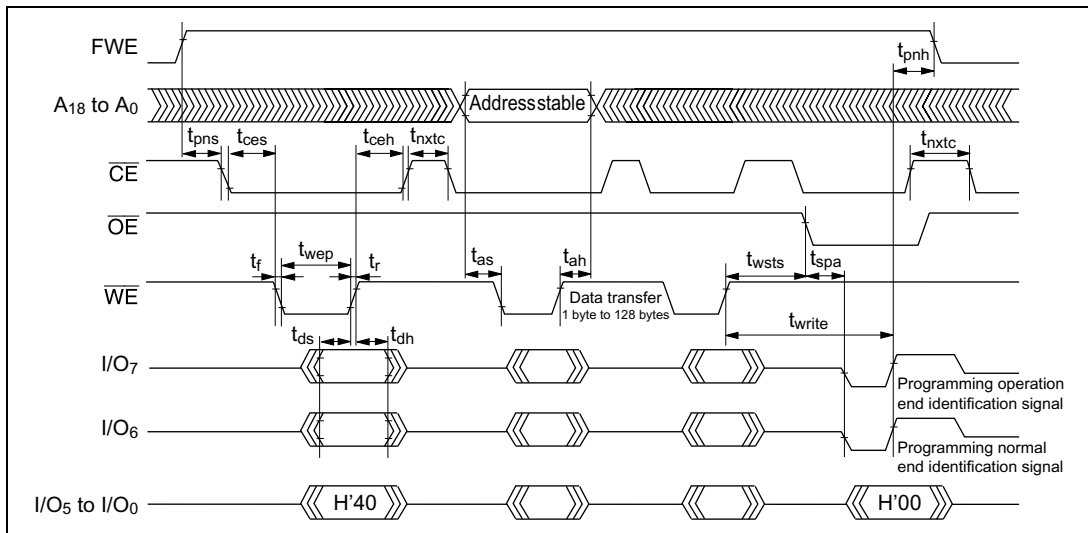

Figure 19-52 Auto-Program Mode Timing Waveforms
- Memory address transfer is executed in the second cycle (figure 19-52). Do not perform transfer later than the second cycle.